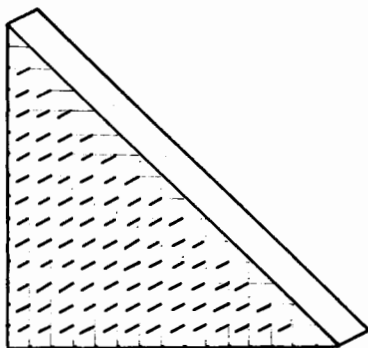
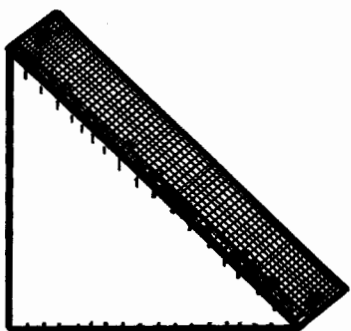

Fig 3-9. Tomography test tool using nails
Fig 3-10. Tomography test tool using mesh
- Tomography test tool (see Fig 3-9, Fig 3-10 and Appendix A, page 136).